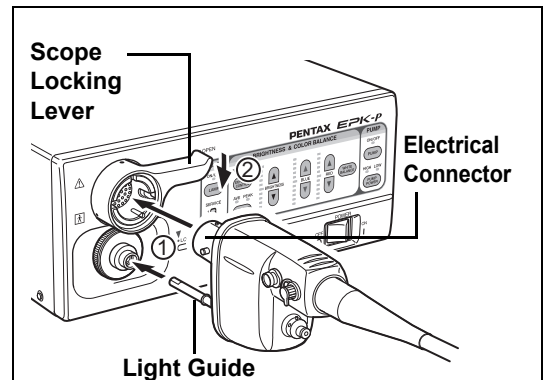

Figure 2.1
- 1** Align the scope locking lever of the processor to the OPEN position. (Refer to Figure 2.1)
- 2** Insert the electrical connector and light guide of the scope into the corresponding scope electrical connector and light guide attachment of the processor and move the scope locking lever in the direction of ② until it clicks into the LOCK position.